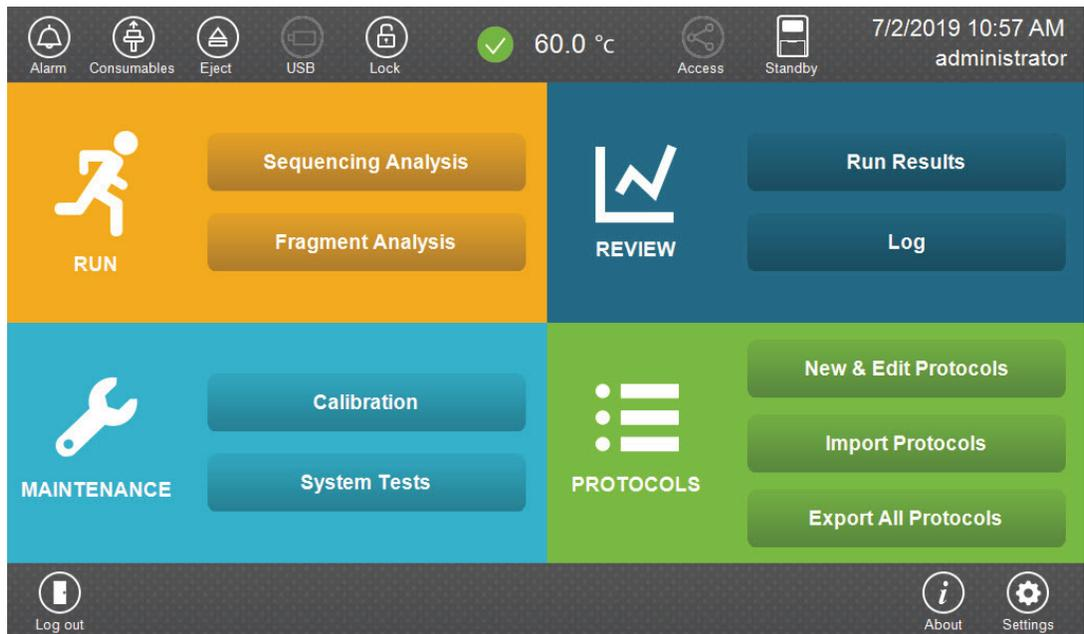

Figure 7. Spectrum Compact CE System Software 'Main Menu' screen.
3. Select **Fragment Analysis** on the 'Main Menu' screen (Figure 7).